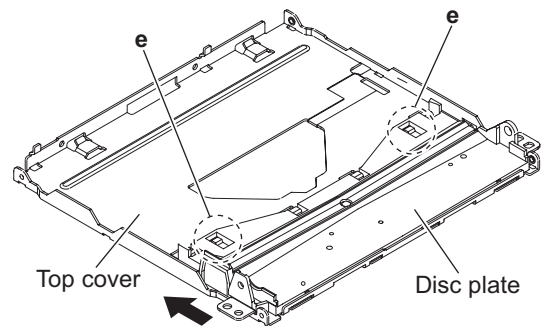

Fig.7
3.2.4 Removing the PHOTO BOARD assembly (See Fig.7 and 8)
- From the bottom side of the top cover, release the projection **e** from the notch of the disc plate. (See Fig.7.)
- Take out the disc plate in the direction of the arrow. (See Fig.7.)